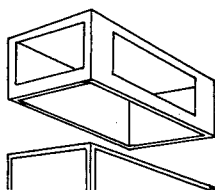

Fig. 1
- a head of the "plenum" type with four lateral openings and adjustable fins which send the hot air in the desired direction (cfr Fig.1).